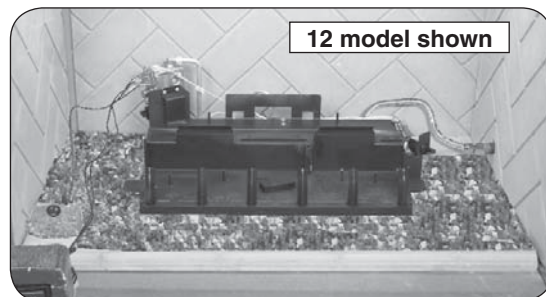

Fig. 18-5 Place lava granules
1. Spread the supplied lava granules on the floor of the fireplace; around the front and sides of the burner system (see Fig. 18-5). The lava granules may be placed around the wood chip and remote receiver (as applicable). Leave the front and top of the components clear for control access.